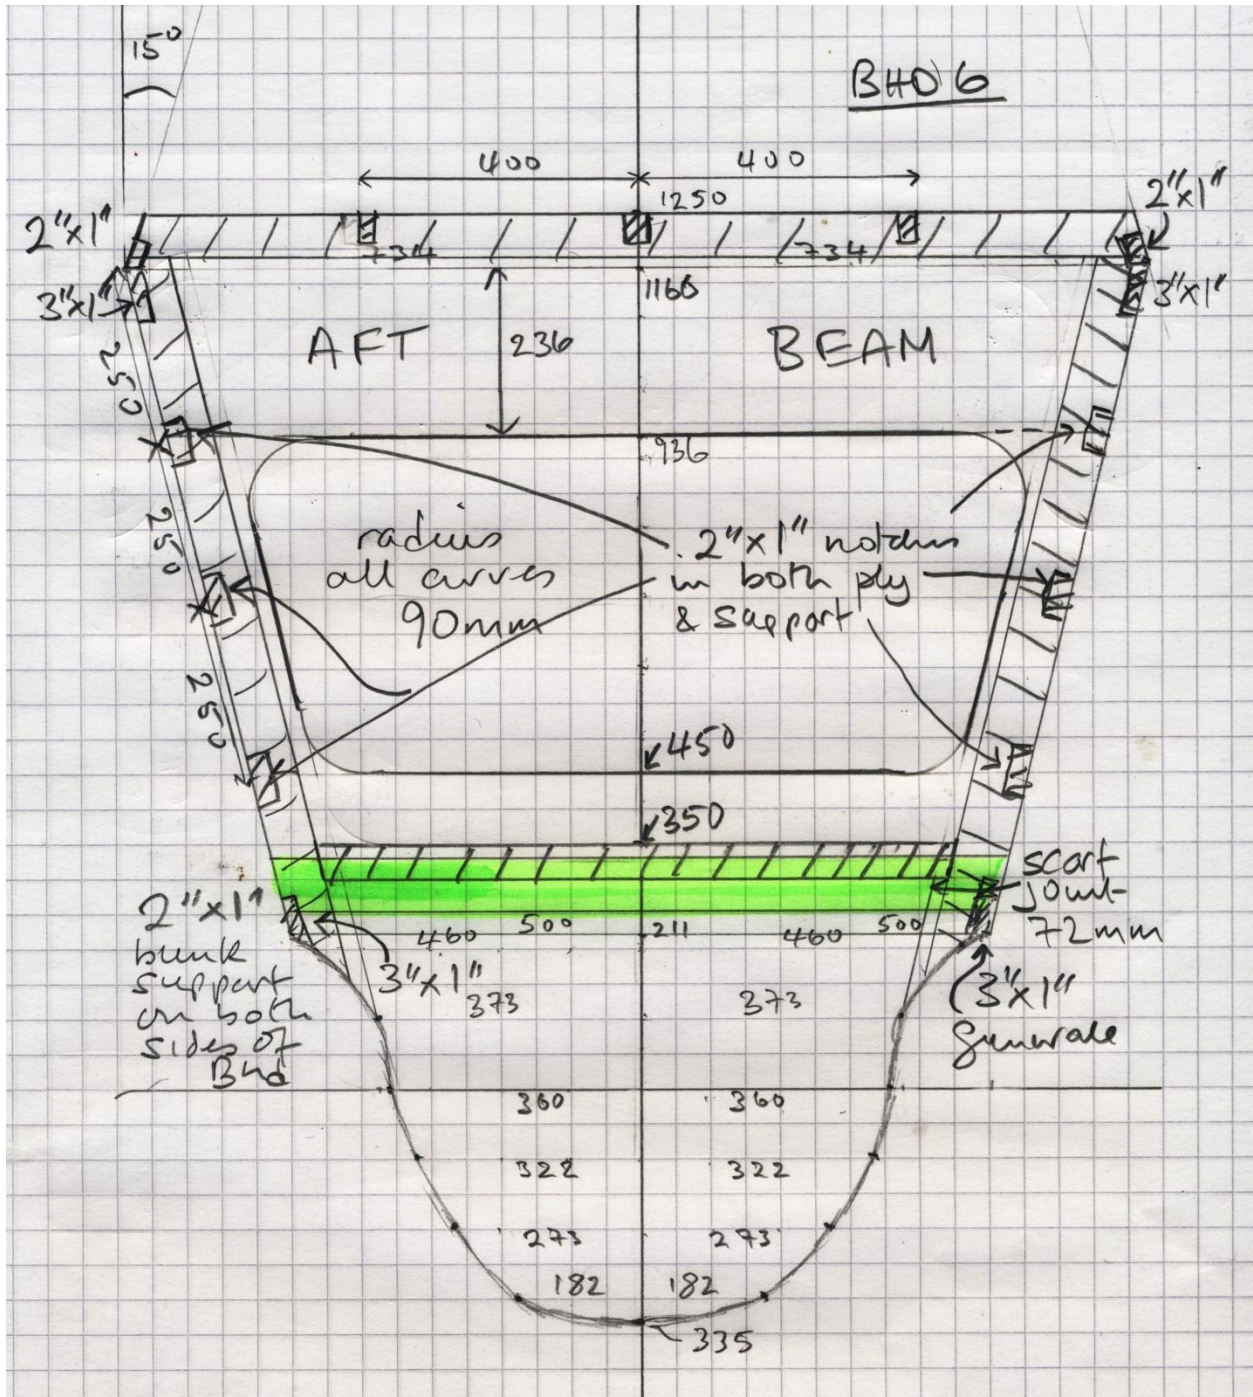

Figure 17: Bulkhead 6 Details
- Figure 17: Bulkhead 6 Details.